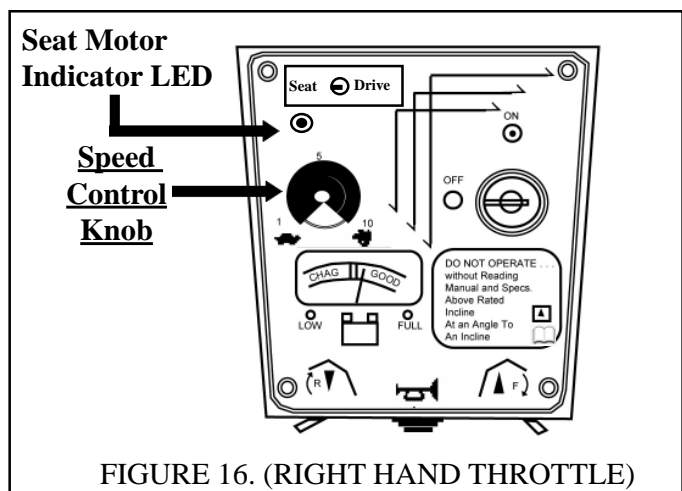

FIGURE 16. (RIGHT HAND THROTTLE)
1. Position the DRIVE/SEAT switch to SEAT. A green LED will light up (See FIGURE 16).